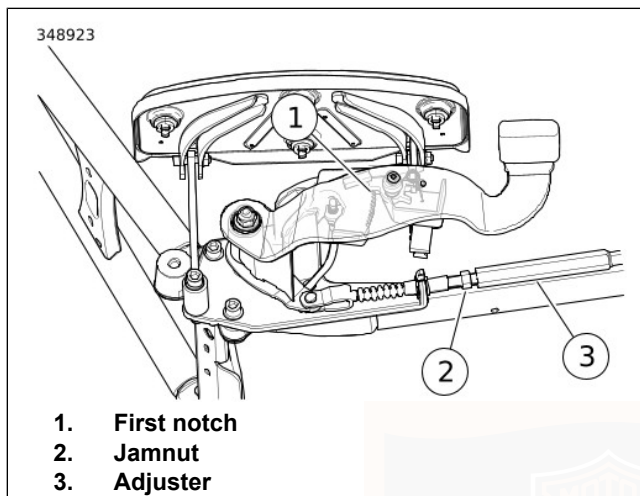

Figure 74. Parking Brake Adjustment
3. See Figure 74. Pull the boot back. Loosen jamnut.